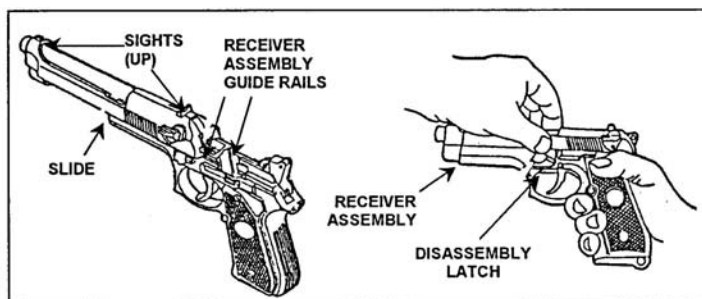

Figure 071-004-0001-8. Final assembly
- g. Push until the rear of the slide is a short distance beyond the rear of the receiver assembly and hold. At the same time, rotate the disassembly latch lever upward. A click indicates a positive lock (figure 071-004-0001-8).
(1) Insert the follower into the top coil of the magazine spring. Make sure the notches on the follower and magazine tube are on the same side.
(2) Insert the magazine spring with the follower into the magazine tube.
(3) Turn the magazine bottom up, with its backside against the palm of the hand. Attach and center the floor plate retainer on the bottom spring coil.